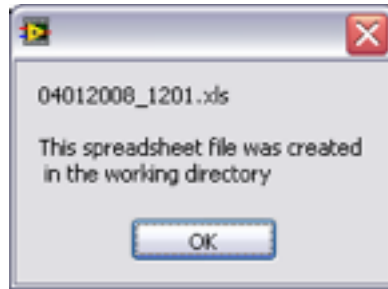

Figure 3.87 Spreadsheet Saved Message
but subsequent files include (2), (3), etc... The file name uses the current date and time; it is independent of the date and time of the original data log file. A message will alert the operator after saving the file, see Figure 3.87.